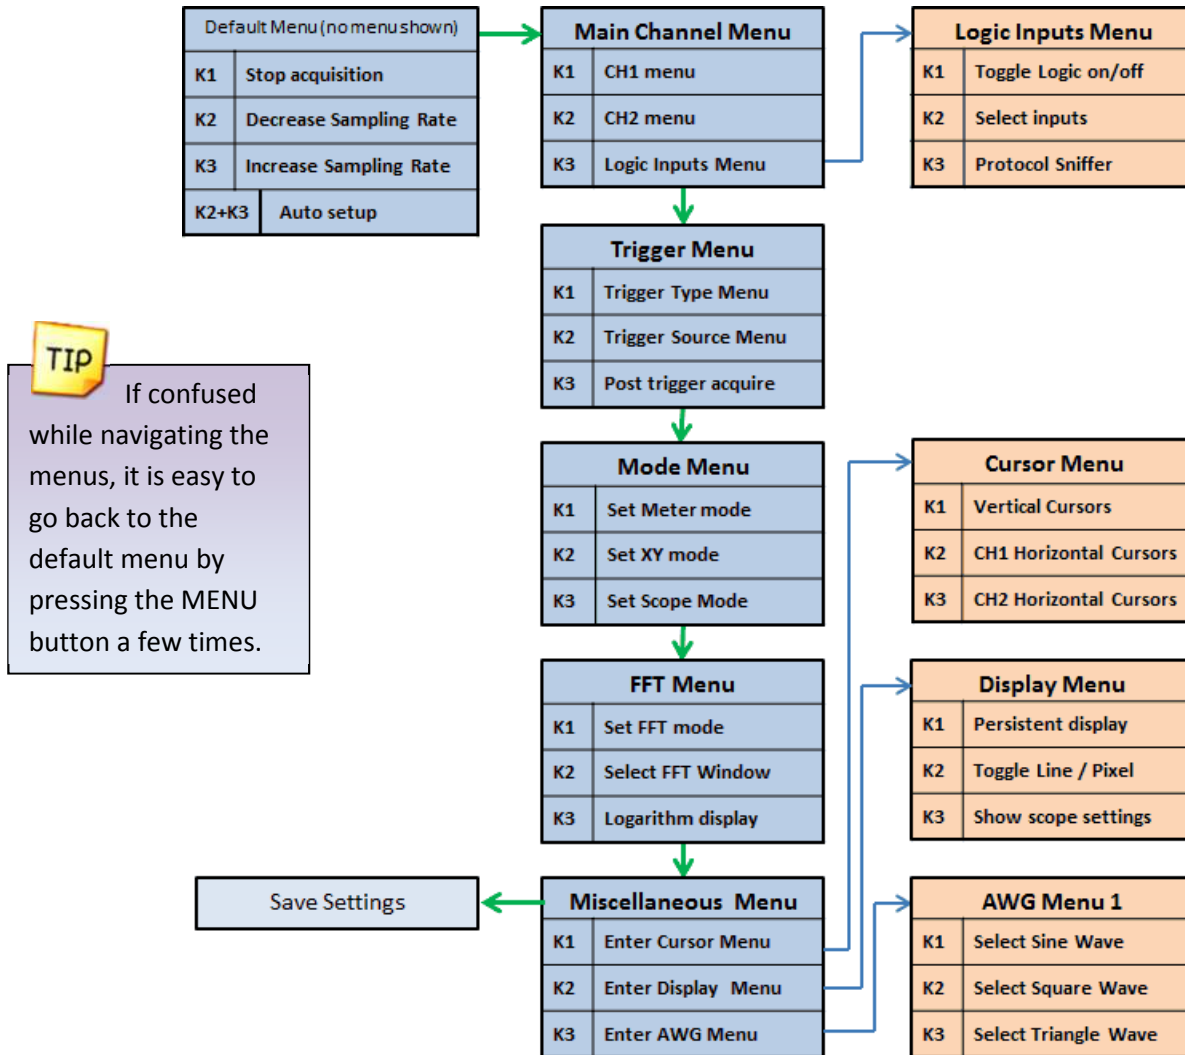

Figure 6: Main Menus
- Press the K2 and K3 keys simultaneously (auto setup). The screen should look like figure 6.